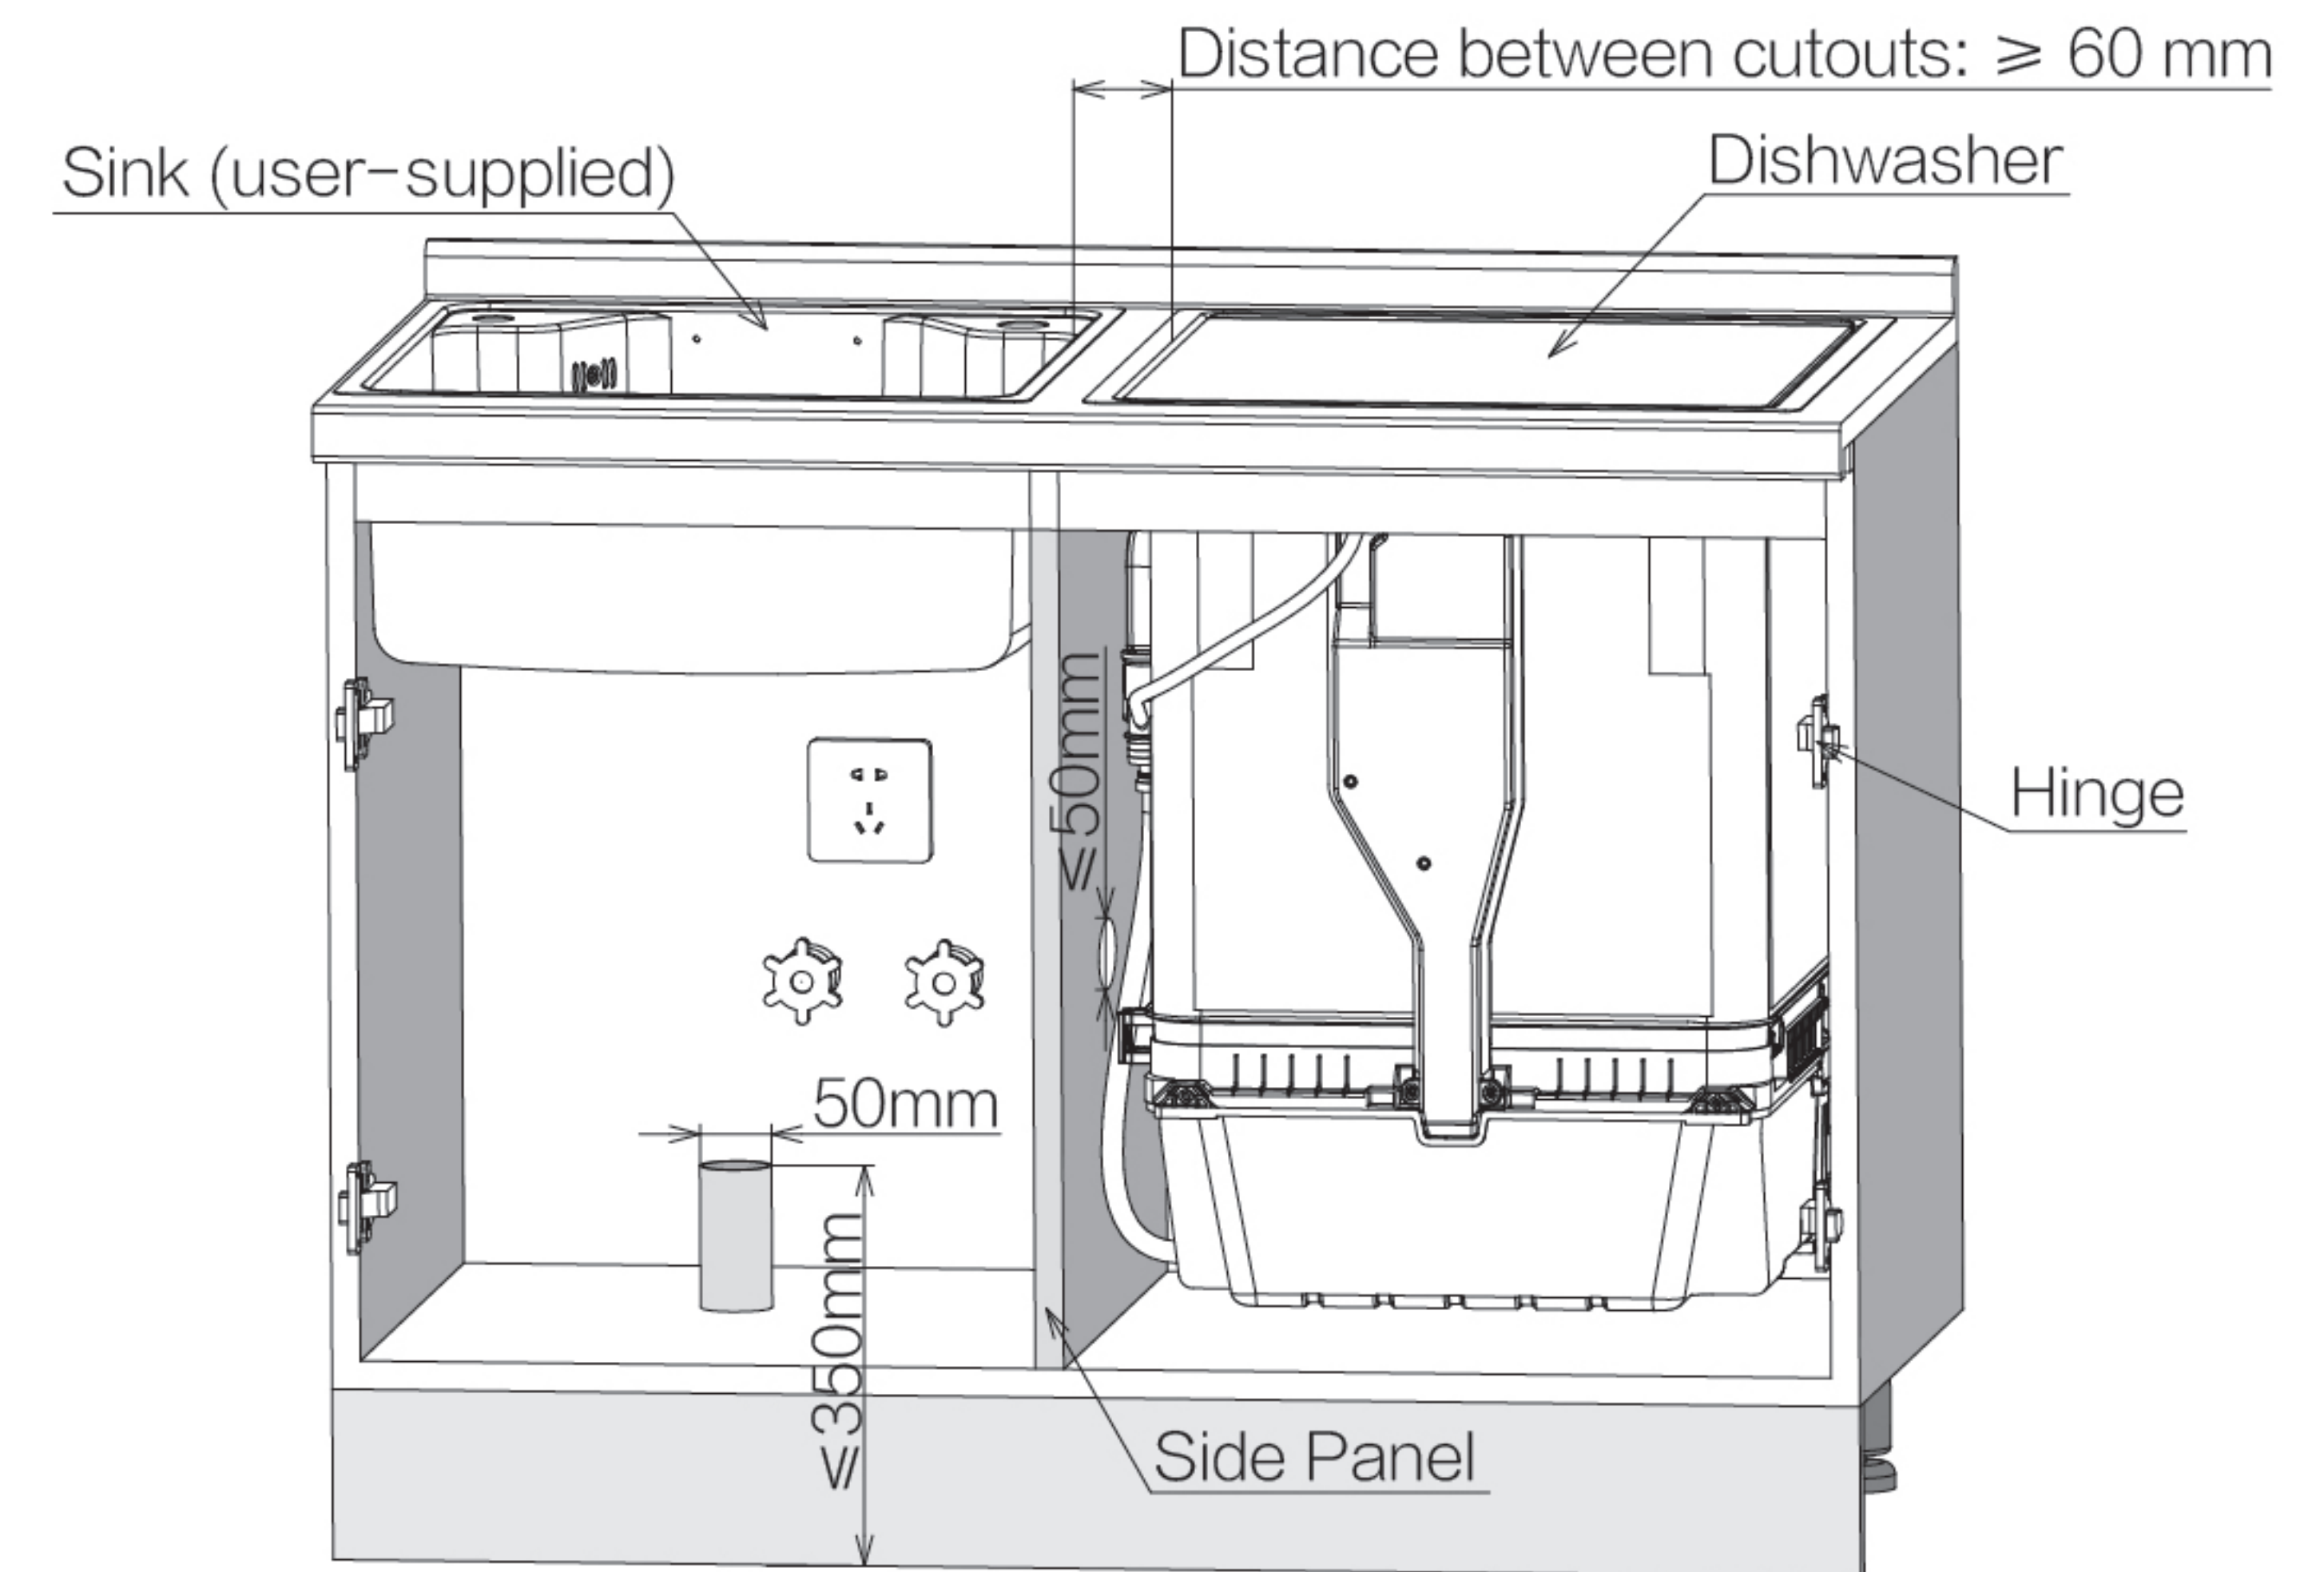

Figure3
- 3.Water supply/power socket requirements: The cold angle valve shall be located below the power socket and close to the water inlet side of the dishwasher (if the supplied inlet hose is not long enough, an extension hose may be used). The socket shall be a single-phase three-pin socket rated at 10 A or 13 A, wired with conductors of at least 1.5 mm². The socket must be reliably grounded, as shown in Figure 3;
- 4.Drainage requirements: For a countertop height of 800 mm, the distance from the drain pipe to the floor shall be ≤ 350 mm; for a countertop height of 850 mm, this distance shall be ≤ 400 mm, and so forth proportionally. The drain pipe diameter shall be 50 mm, and the sink drain hose diameter shall be ≤ 45 mm, as shown in Figure 3;
- 5.The distance between the countertop cutouts for the dishwasher and the sink shall be ≥ 60 mm. A side panel must provide support between the two cutouts, and a circular hole of 50 mm diameter shall be cut in the side panel. The center of the circular hole must be higher than the drain pipe, as shown in Figure 3;